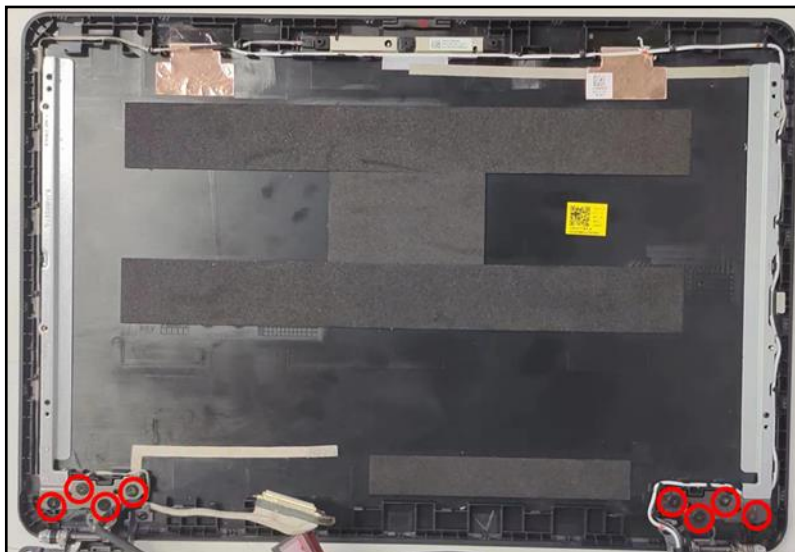

Figure 3-74. Replacing the LCD Hinges
2. Install eight (8) screws to secure the LCD hinges in place (Figure 3-74).